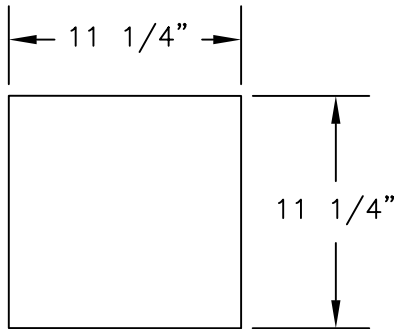

FIG. 1
1. CUT LUMINAIRE OPENING (11 1/4" X 11 1/4") IN THE DESIRED LOCATION ON THE CEILING TILE. (FIG. 1)